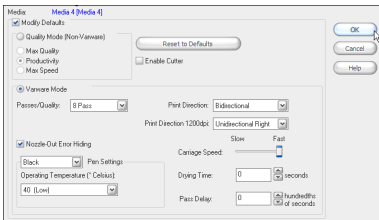

Figure 6—Printer Options
4. Click **Options** to display the Printer Options dialog (see Figure 6).